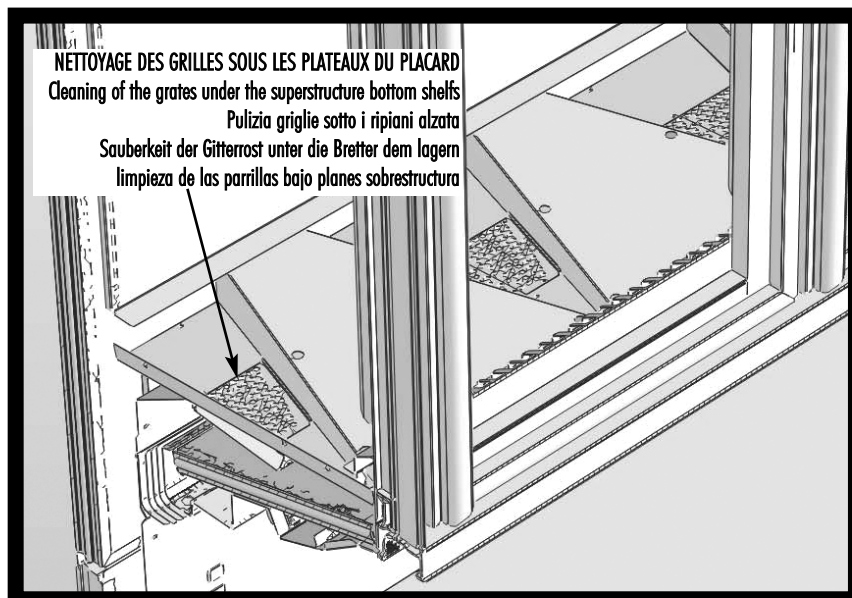

fig. 21
3) **Every three months clean the grates under the superstructure bottom shelves (fig. 21).**